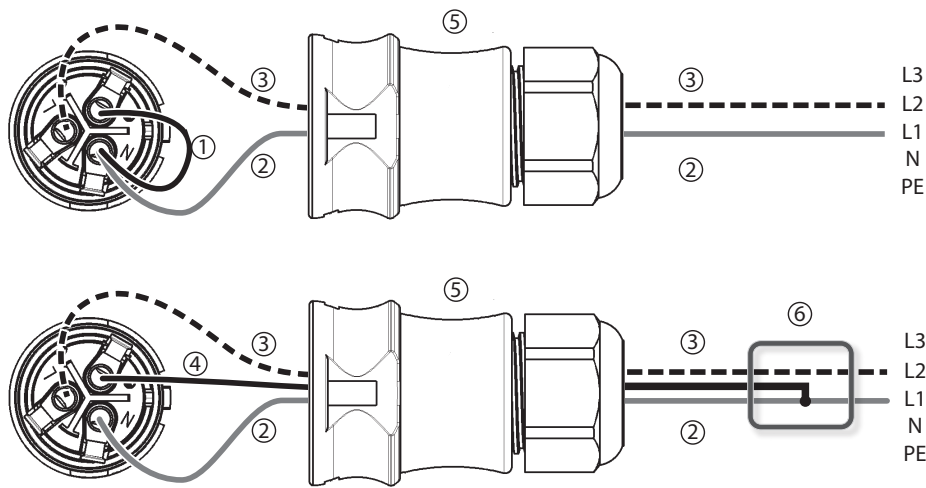

Figure 40
- N and L are connected between the L1 – L2 external conductors at the inverter side. See ② and ③ Figure 40.
- Figure 40 shows an example of an inverter-side connection between L1 and PE:
- Figure 40: as above.
2. Connect one of the two connected phases to PE at the inverter side. Make this connection inside the AC plug or use an external junction box; see Figure 40.